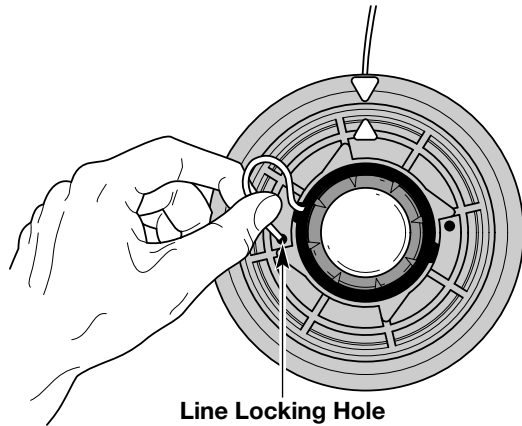

Fig. 17
5. Insert the line into the locking hole (Fig. 17). Do not push the line more than a 1/2 inch (12.7 mm) into the line locking hole. The line will form a small loop (Fig. 17) when it is inserted correctly.